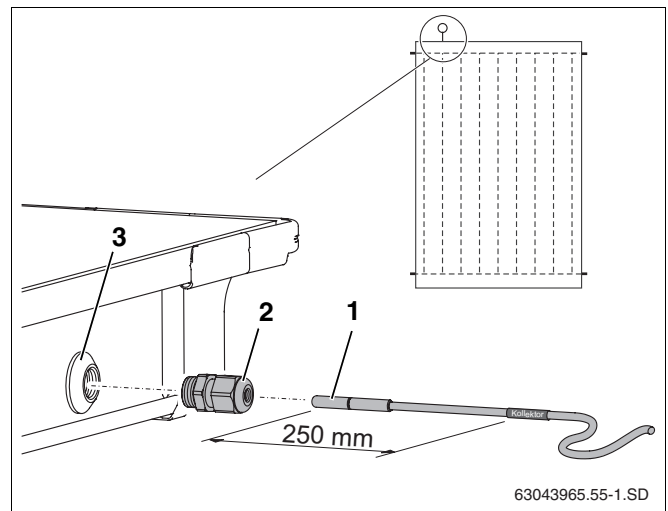

Fig. 51 Pushing the collector sensor into the collector
For perfect functioning of the solar heating system, the collector sensor (Fig. 51, **Item 1**) needs to be inserted into the sensor guide tube as far as it will go (approx. 250 mm).
- ▶ Using the collector sensor or screwdriver, push through the sealing membrane on the sensor pocket (Fig. 51, **Item 3**).
- ▶ Screw clamped joint (Fig. 51, **Item 2**) into sensor pocket.
- ▶ Tighten clamped joint (Fig. 51, **Item 2**), counterhold if necessary.
If you accidentally push through the sensor bush (Fig. 51, **Item 3**) on the wrong collector, it can be resealed using the plug from the connection kit. However, you must first remove the nut in the sensor bush using the cable gland (Fig. 51, **Item 2**).